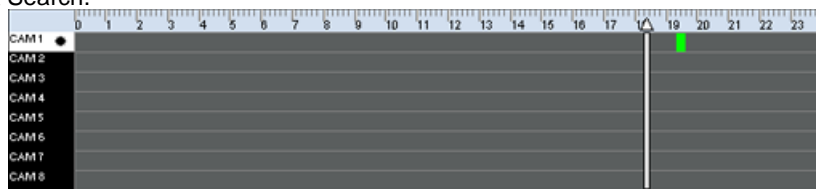

Fig 3.22 Backup Data Search
STEP3 Set the date and channels. It will show the recorded video in area ③ with green light at the bottom as shown in Fig 3.22 Backup Data Search.